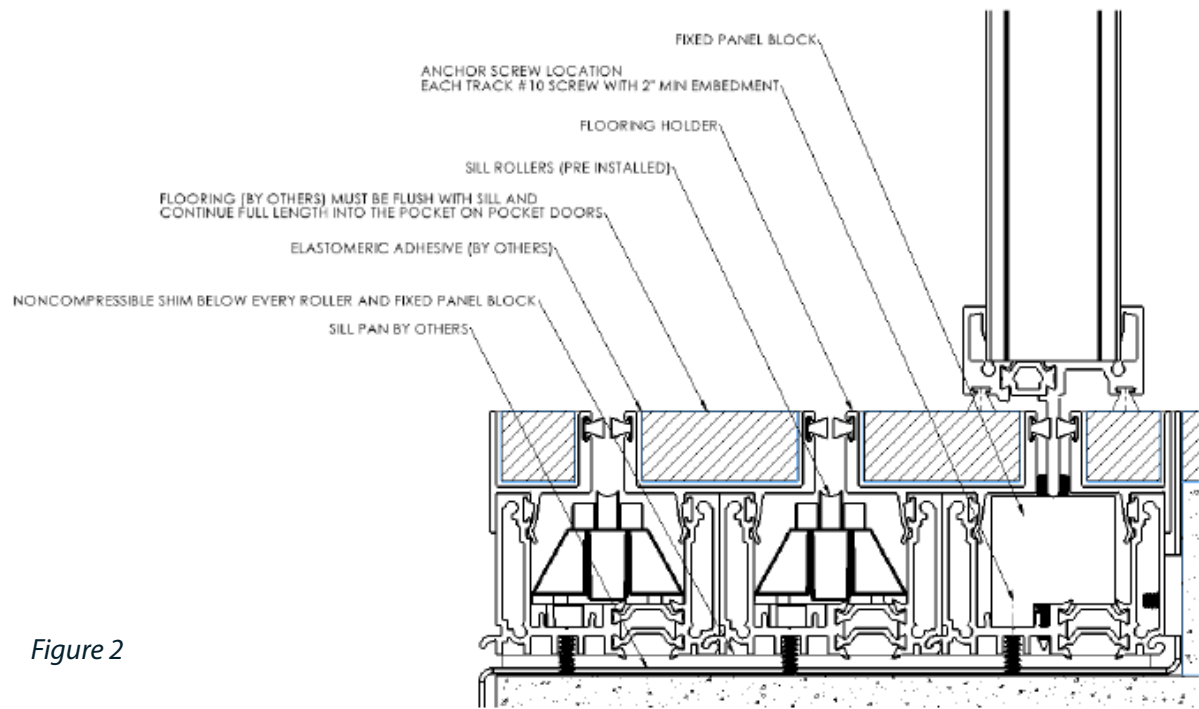

Figure 2
- Frame Head – holes should be drilled 12" from each end and every 24" on center per track. See **Figure 1**. Sill – holes should be drilled 6" from each end and every 24" on center per track. See **Figure 2**.